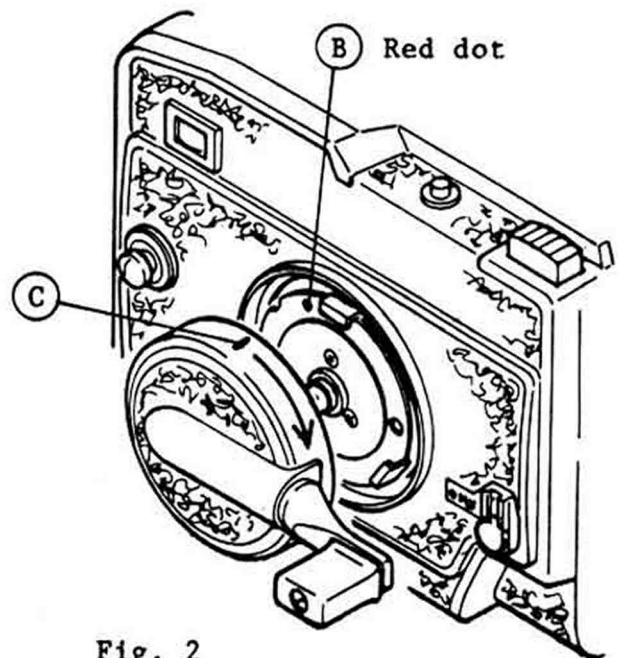

Fig. 2
- 1 Align the red dot (B) of the camera body with the index line (C) on the film advance crank as shown in Fig. 2.
- 2 Push the film advance crank into the receptor, then twist approximately  $20^{\circ}$  clockwise while pushing in on the release lever (A), and it will lock into place.